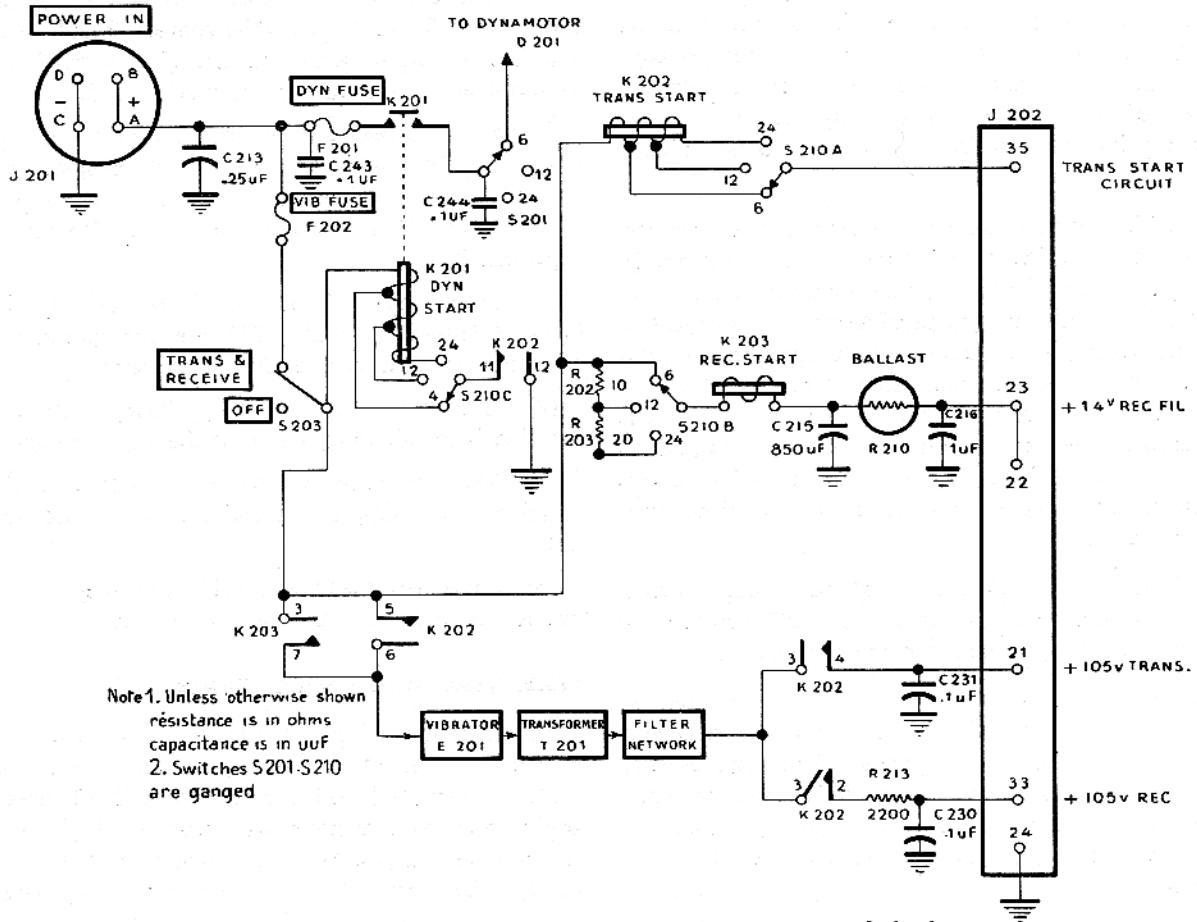

Figure 90.2. Dynamotor-Power Supply DY-88/GRC-9, control circuits
a. FUSES. The vehicular battery is connected to the + and — terminals of the dynamotor power supply across capacitor C213, (fig. 90.2). C213 is an r-f bypass capacitor which prevents the input cables from radiating r-f noise that would interfere with radio reception. DYN FUSE F201 protects the dynamotor circuits. *This fuse must be changed each time the battery voltage is changed* (par. 45.1). VIB FUSE F202 protects the vibrator circuits.
b. SWITCHES. The voltage selector switches, S201, S210 and S211 in the dynamotor power supply are ganged to one common shaft and perform the function of connecting the correct circuit components when a 6, 12, or 24 volts vehicular battery is used. There are several wafer sections of S210B, C and S211—S1, S2, S3, S4, (figs. 90.2 and 90.3). TRANS & RECEIVE-OFF switch S203 is a single-section rotary switch.
125.3. Receiver Filament Supply (fig. 90.2)
a. TRANSMITTER START RELAY. When control Ⓢ is turned to the SEND position, transmitter start relay K202 is energized and contacts 11 and 12 close to apply power to dynamotor start relay K201 (fig. 90.2). At the same time, contacts 5 and 6 and 3 and 4 of K202 close, while contacts 2 and 3 open (par. 125.6). Voltage
a. Closed contacts 5 and 6 of K202 apply battery power to the vibrator portion of the dynamotor power supply (fig. 90.2). The 105-volt output is applied through closed contacts 3 and 4 of K202 (contacts 2 and 3 now are open), terminal 21 of J202, and closed contacts 18 and 19 of keying relay K101 to the receiver (fig. 65).